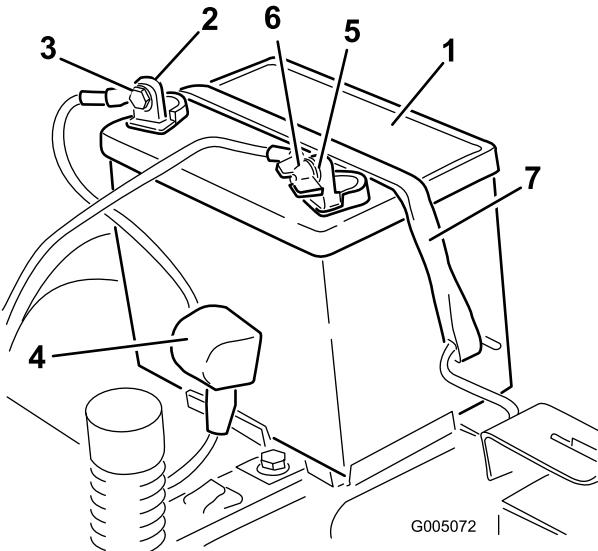

Figure 47
- Disconnect the negative (black) ground cable from the battery post (Figure 47).
- Disconnect the positive (red) cable from the battery post (Figure 47).
- Remove the battery hold-down (Figure 47), and lift the battery from the battery tray.
1. Position the battery in the tray (Figure 47).
5. Secure the battery with the hold-down (Figure 47).